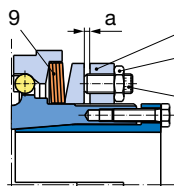

Fig. 9
#### Sizes 4 and 5 (Figs. 9 and 10):
- Loosen all hexagon nuts (7).
- Adjust all set screws (6) evenly to the required dimension "a" using a hexagon socket wrench.
- EAS®-Compact® ratchetting and synchronous clutch, Size 4: find dimension "a" in the Adjustment Table glued to the clutch (Fig. 9).